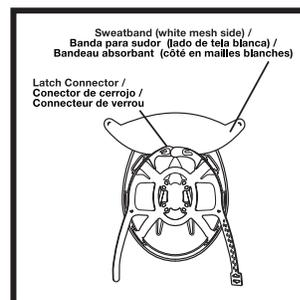

Figure 11
- Simply wrap the sweatband around the outside of the headband, and hook over lugs on each side of headband. **(See Figure 11)**